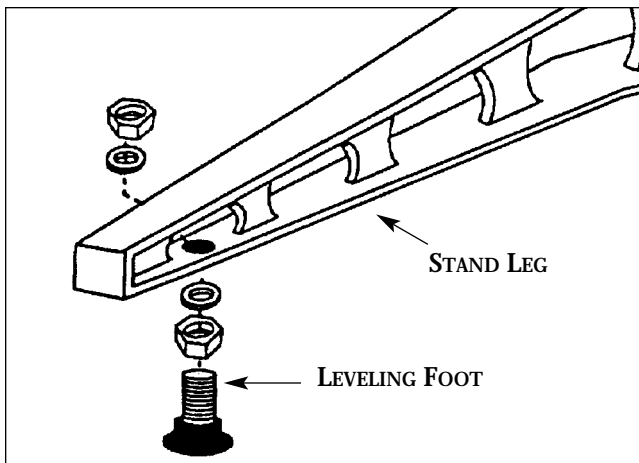

Fig. 2. Leveling foot and mounting hardware.
1. Unbolt the machine legs from the shipping pallet. Install the rubber-based leveling feet or optional caster set on legs (Fig. 2). The feet and mounting hardware are in the **STOP bag** packed with your machine.